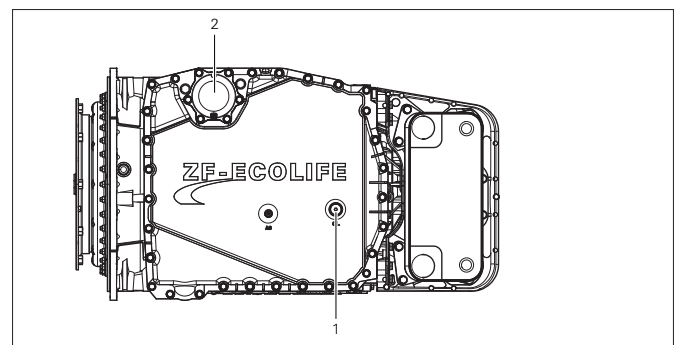

Fig. 1.6 Coaxial transmission with standard oil drain
- Screw in oil drain plug **(1)** with new O-ring (refer to Fig. 1.6).